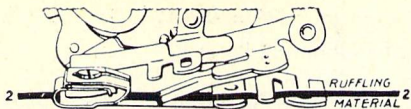

Fig. 71. Correct Positions for Material.
2. Insert the material to be pleated between the two blue blades and under the separator guide (Line 2, Fig. 71).